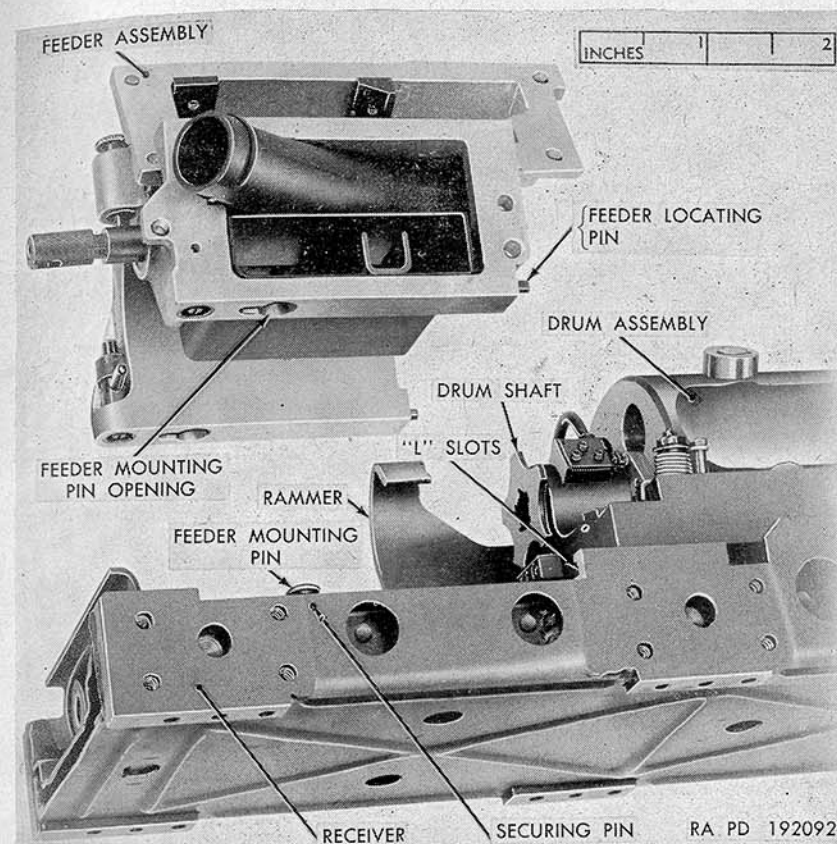

Figure 52. Feeder assembly removed from receiver.
- Pull feeder assembly (fig. 52) to rear until feeder locating pins are clear of receiver "L" slots.
- Lift feeder assembly from receiver (fig. 52), being sure that the rammer of the operating slide does not interfere with the feeder sprockets.
- Place feeder mounting pin openings, on feeder frame, over feeder mounting pins of the receiver (fig. 52). Lower feeder assembly onto receiver, engaging mounting pins and holes.
d. Slide feeder forward to engage receiver "L" slots with feeder locating pins (fig. 52).